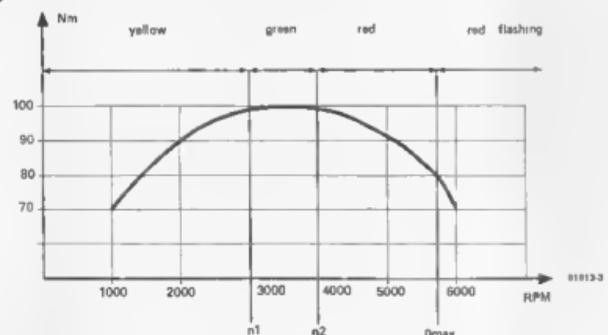

Figure 3. The fuel economiser does not indicate the exact number of revs, but gives a general idea of whether they are too low, too high or just right.
Figure 3 shows how the display works in relation to the torque/rev curve. Three LED's are sufficient. An extra acoustic signal means you don't have to keep your eye on the LED's continuously. A short tone signals the transition from the green to the red range and indicates it is time to change gear. When the maximum number of revs is exceeded an intermittent warning note will be produced.
2. The lowest (n_1) and highest (n_2) limits of engine speed are derived from the engine torque/rev curve (see figure 3). If this is not given in the manual, you should ask your car dealer.